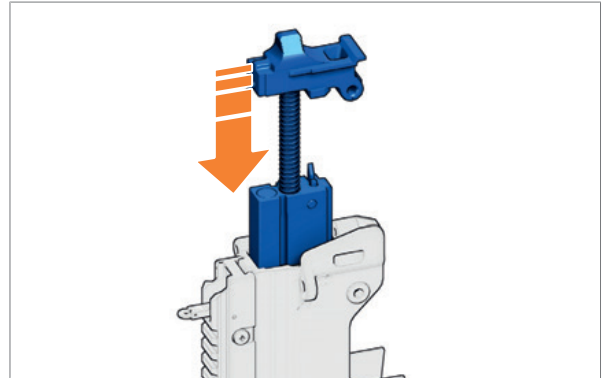

Fig. 123: Insert bolt group into receiver
3. Insert bolt group and back plate into receiver (*Fig. 123*).